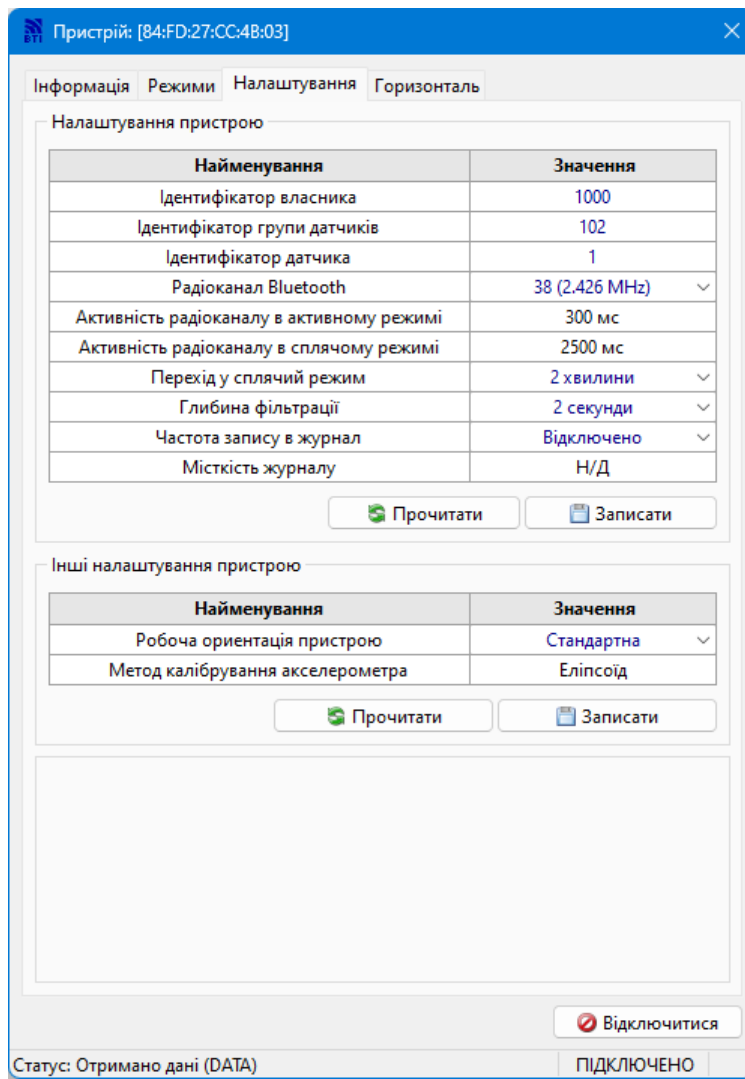

Figure A.8 – Window for working with a connected device. Tab "Settings".
The "Settings" tab (see Figure A.8) contains the following data:
To set the working orientation of the Sensor, after connecting to the Sensor, go to the "Settings" tab (see Fig. A.8) and select the required value from the list. Then, click the "Save" button.
- "Sensor" – this event is automatically generated by the built-in Sensor software after a specified period of time (set on the "Settings" tab in the "Logging frequency" field (see Fig. A.8). At the same time, the current values of the inclination angle measurements are added to the log.